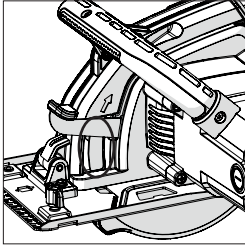

Fig. 13
A toughened glass blade viewing window, (9), is located to the front left hand side of the upper blade guard near where the blade will emerge from a cut. (Fig.13), This allows the operator to monitor the progress of a cut, whilst providing protection from any ejected material.